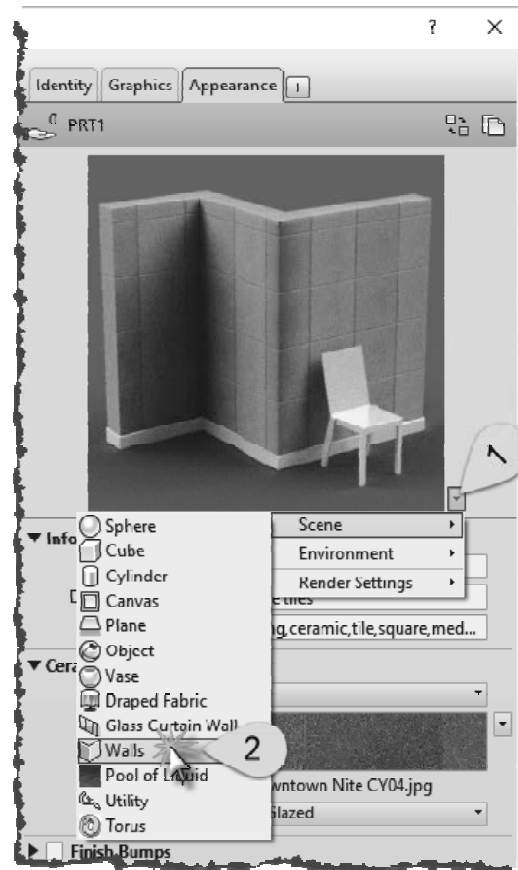

FIGURE 4-4.18 Changing preview image
73. Click the down-arrow next to the material preview and select **Walls** (Figure 4-4.18).